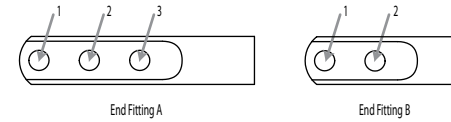

Figure 17.14 Strut end fittings.
- 3 Attach desired strut end fitting by holding the strut stationary and twisting the end fitting clockwise until fully fastened. To determine which end piece is preferred, refer to Figure 17.14 and Table 17.3.